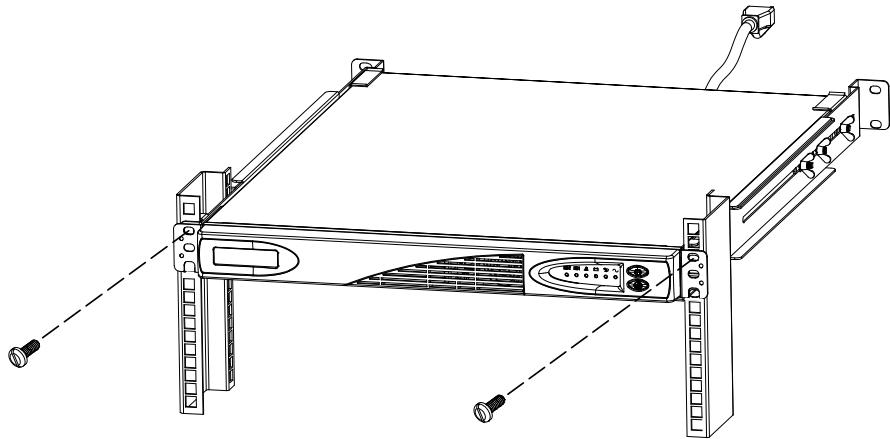

Figure 10. Securing the UPS in a 19" Rack
- 12.** Secure the front of the UPS to the rack using one M6 × 10 screw on each side as shown in Figure 10.